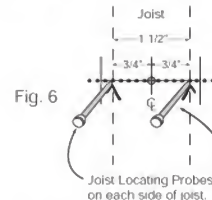

Fig. 6
Screws have a major diameter and a minor diameter. (See Figs. 6 & 7) The pilot hole should always be **smaller** than the minor diameter of the screw shaft.
2.3-Once you have found the outside edges of the joist, insert the two probes into the holes closest to the edges of each side of the joist. (See Fig 6) Measure the distance between them. It should be approximately 1 1/2" between the two edge-locating holes. Split the difference—Measure 3/4" in from each end and mark the location. This location should be the center with a straight line perpendicular to the wall. (See Fig. 6)